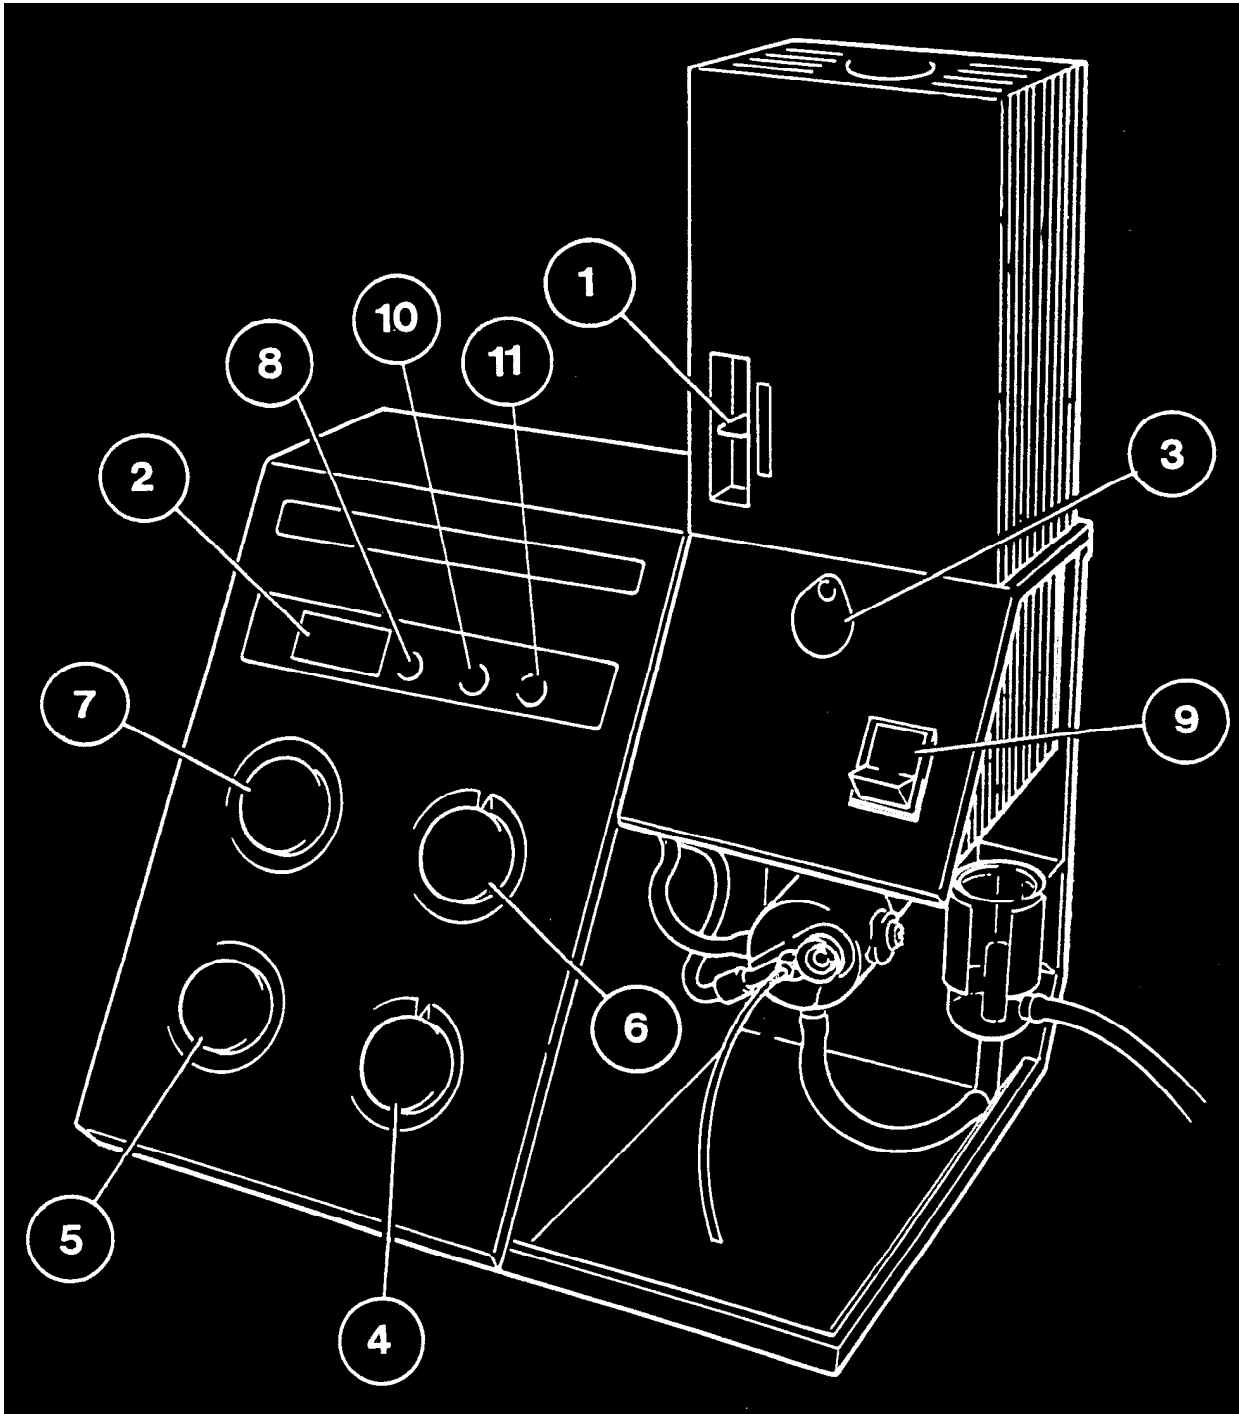

Figure 5.1 Front Panel
5.1 Front Panel Controls and Indicators (See Fig 5.1).